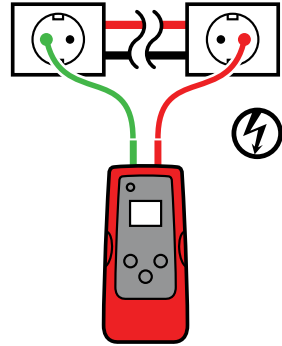

Figure 3.1a
2. Connect red lead to energized Line wire (on the load side of the system). The signal will ONLY be transmitted between the outlet to which the transmitter is connected and the source of power (see Figure 3.1a). (refer to section 2.2 for further explanation).